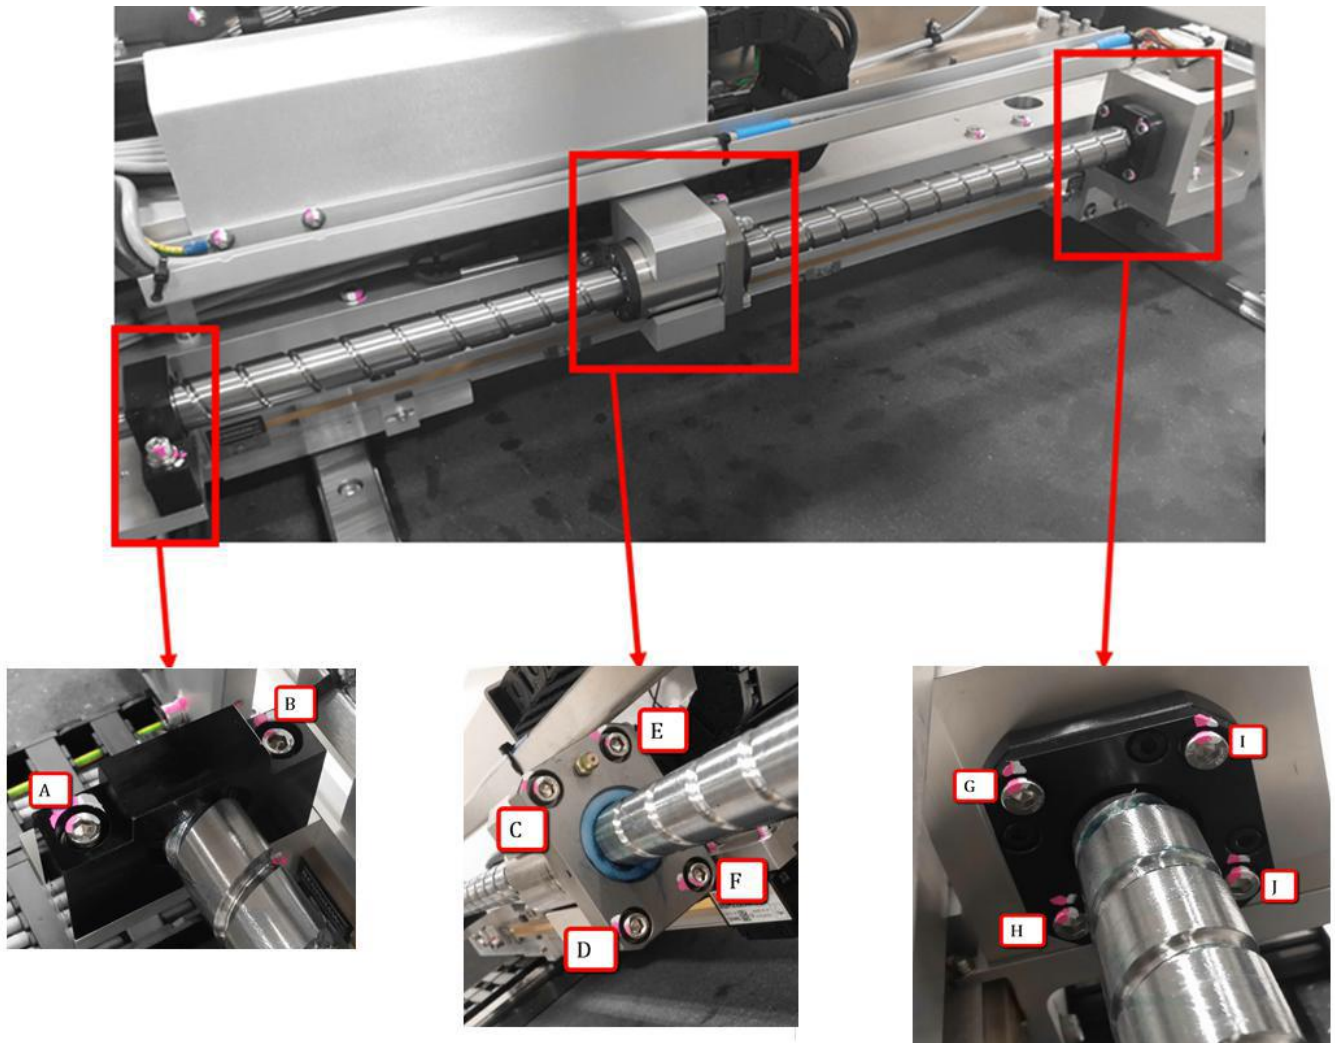

Figure 1 X-axis Ball Screw
1. Loosen the bearing the Bearing support with M6 Allen Key at “A” & “B” (Note: DO NOT TIGHTEN) as shown in Figure 1.
2. Loosen the Bearing support, Fixed round at M5 Allen Key at “G” to “J”. (Note: DO NOT TIGHTEN) as shown in Figure 1.
3. Loosen the screw at round bearing with M6 Allen Key at “C” to “F”. (Note: DO NOT TIGHTEN) as shown in Figure 1.